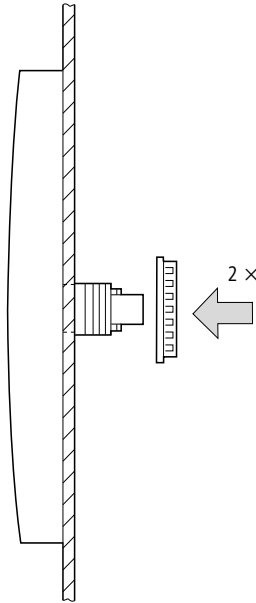

Figure 13: Screw fastening the display/operator unit
- ▶ Tighten the display/operator unit with the screw fasteners (→ Figure 13).